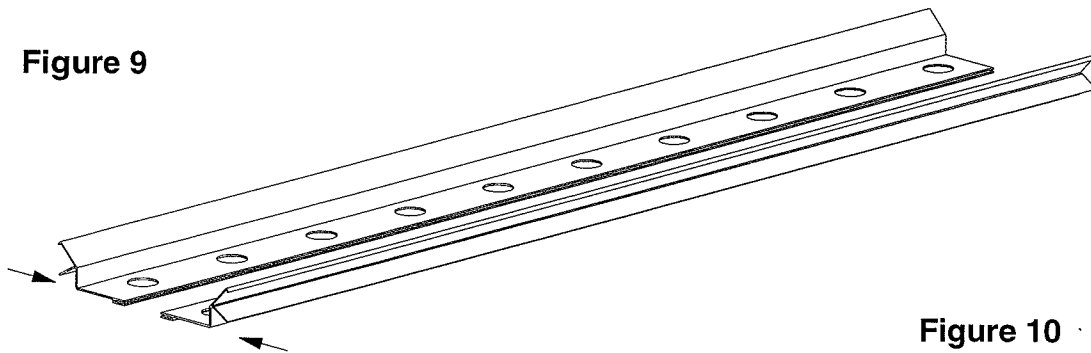

Figure 9
- H) Locate the pad supports and slip the pad supports together as shown in Figure 9. Leave 6 inches between the pad supports for the Kool Cel pads.